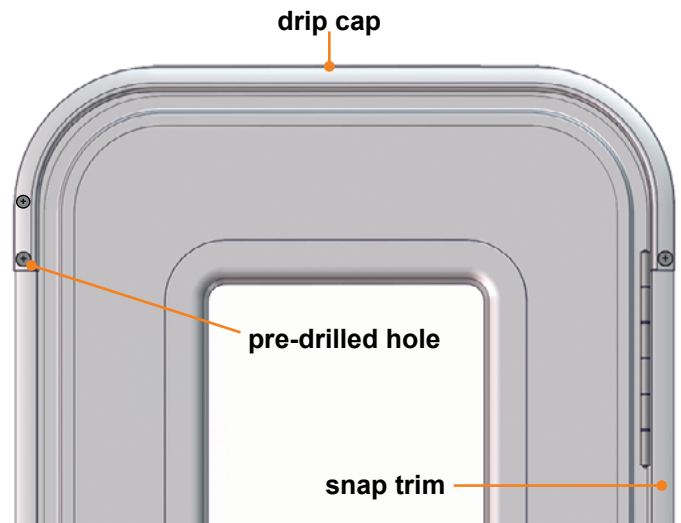

Fig.8
2. Install drip cap overlapping the snap trim (**Fig.8**).